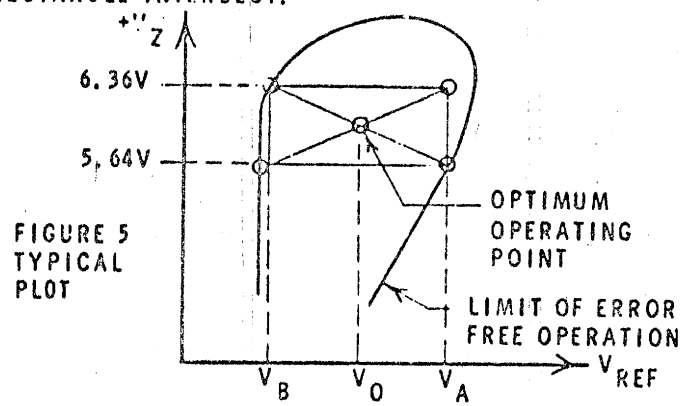

FIGURE 5 TYPICAL PLOT
5. SET VREF TO OPTIMUM OPERATING POINT, SEE FIGURE 5 ABOVE, AND RECORD THE VALUE DETERMINED ON THE LABEL.
SEE FIGURE 5 FOR DEFINITIONS OF V_A AND V_B